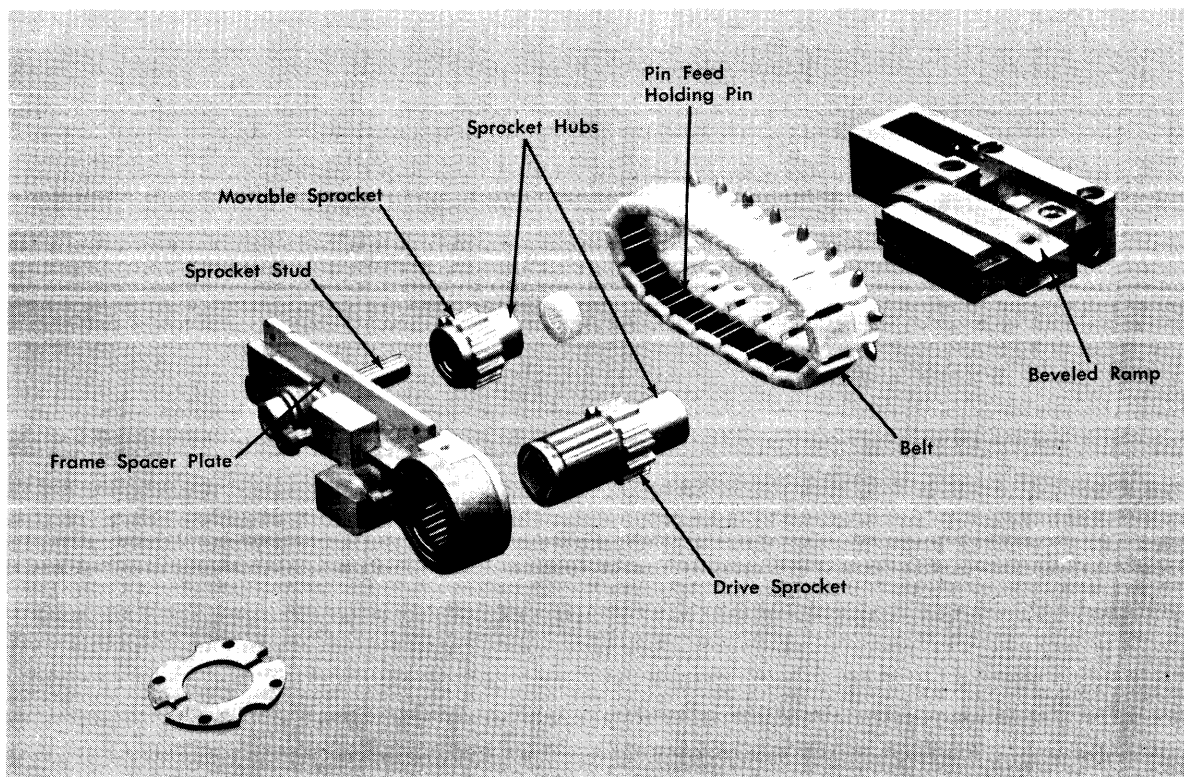

Figure 11. Tractor Assembly
1. Maintain parallelism between the axes of rotation of the drive sprocket and of the movable sprocket (Figure 11).